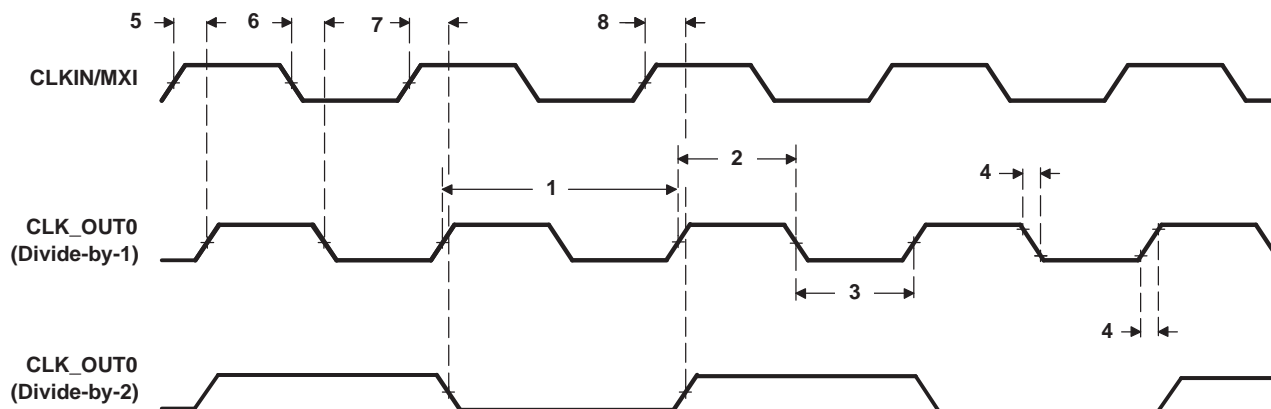

**Figure 6-14. M24XI Timing**
**Table 6-16. Timing Requirements for M24XI (-270) Devices(1)(2)(3) (see Figure 6-14)**